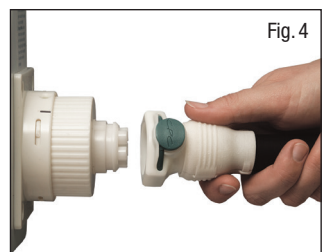

Fig. 4
3. Connect the air supply hose from the cushion onto the adaptor, matching up the alignment markings (Fig. 4). Ensure that this has been correctly clicked into place, otherwise a leak may occur.